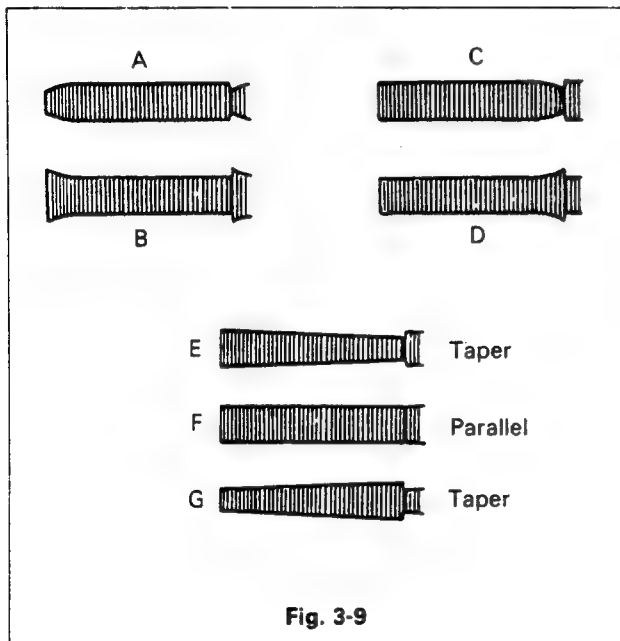

Fig. 3-9
- (1) Connect the oscilloscope to the test pin TP501 on the preamplifier circuit board. Connect the oscilloscope's external trigger terminal to TP604 on the S/S circuit board the alignment tape (MH-2). Adjust the tracking control knob for minimum FM output level while observing the the scope display.
- (2) If the scope display shows waveforms shown in Figure 3-9, C and D, minimize the FM waveform and carefully adjust T and S guide rollers until a waveform shown in Figure 3-9 E, F, or G is obtained.